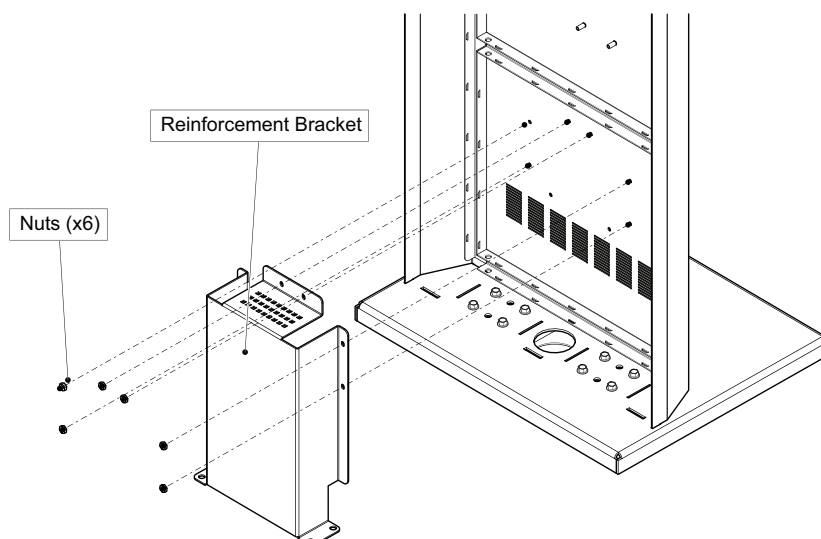

Figure 7 Reinforcement Bracket with nuts
4. Remove the 6 nuts on the reinforcement bracket, as show in Figure 7, and then remove the bracket.
3. Position the reinforcement bracket over the 6 studs on the inside of the Kiosk, and screw the 6 nuts on to the studs as shown in Figure 7.